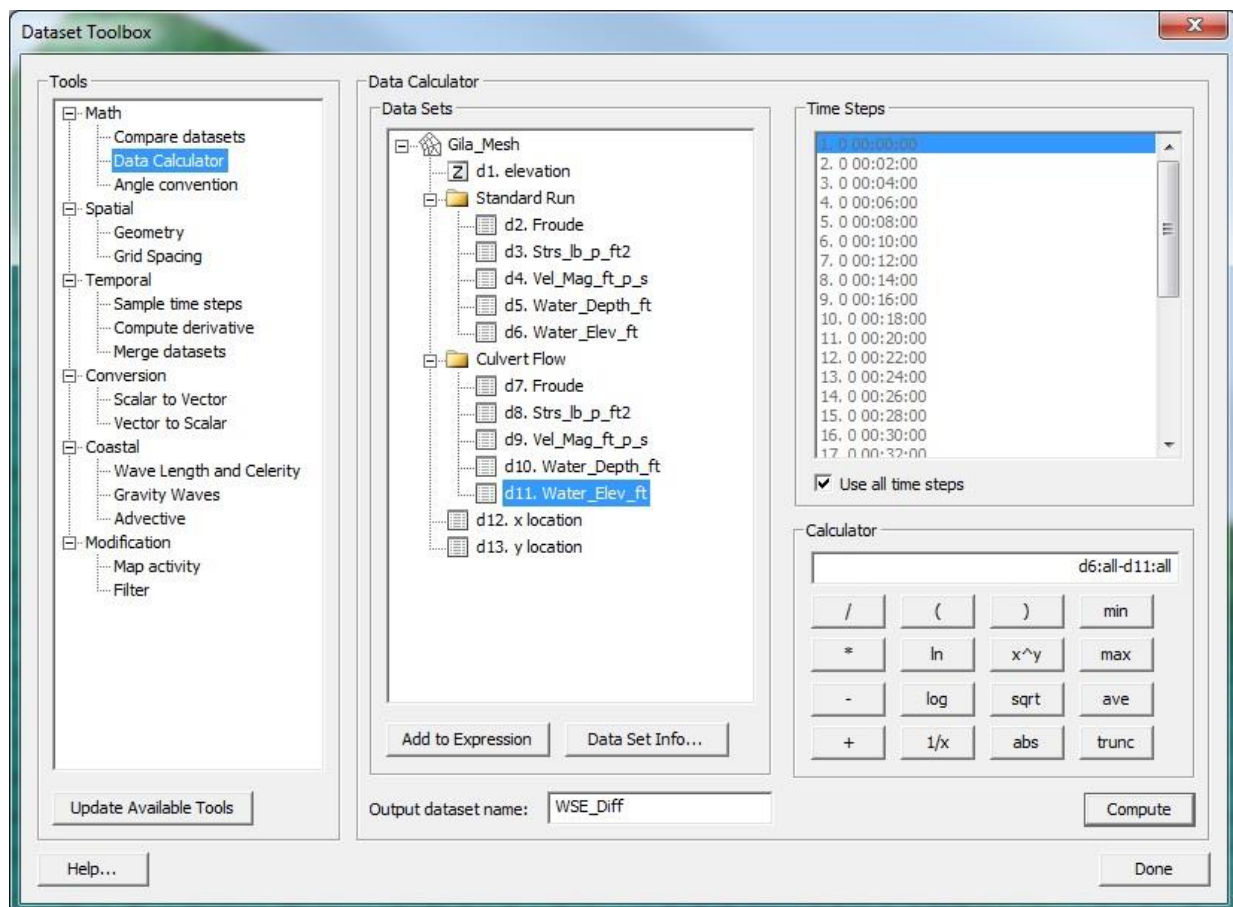

Figure 10 Data Calculator Expression
9. Specify the name of the dataset as “WSE\_Diff” in the *Output dataset name* box. The window should look like Figure 10.